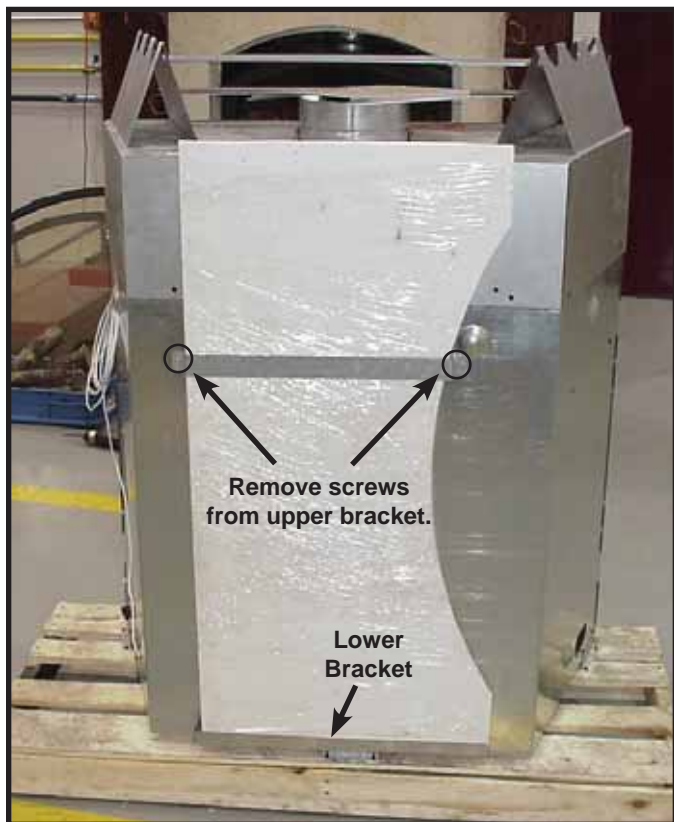

Figure 7.1 Non-Combustible Facing Material Assembly
The non-combustible assembly is located on the back of appliance (see Figure 7.1).
- Remove and save two screws from upper brackets (see Figure 7.1).
- Remove and save three screws from lower bracket (see Figure 7.1).